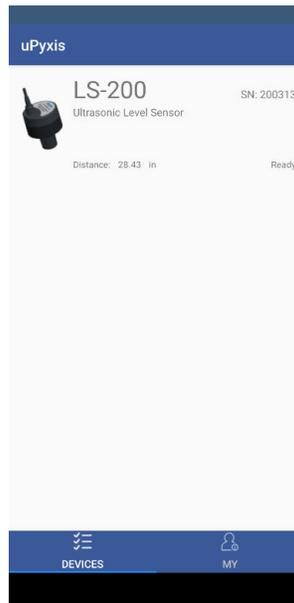

Figure 6.
3. If the connection is successful, the LS-200 and its Serial Number (SN) will be displayed (Figure 6).